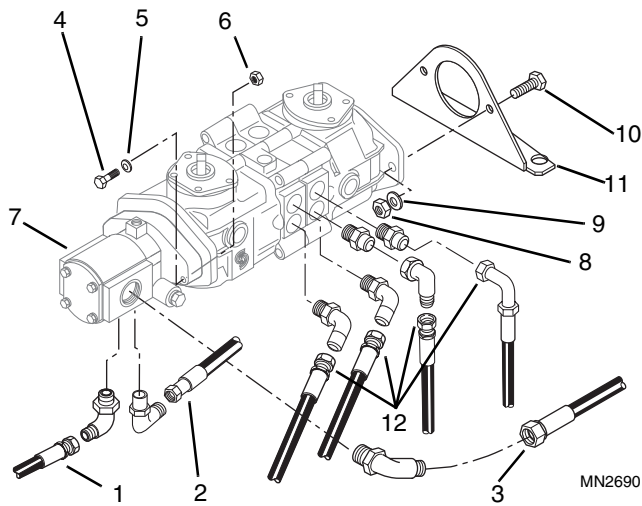

Figure 5-10 Control Pump Disassembly
9. Disconnect three hoses (Fig. 5-10, 1-3) from the implement pump and tag them with identification for proper re-installation. Cap or plug all hydraulic hoses and fittings.
10. Remove the two capscrews (Fig. 5-10, 4), washers (5), and nuts (6) attaching the implement pump (7) to the main travel control pump, and remove the implement pump.
13. Tag and remove all of the hydraulic hoses (Fig. 5-10, 12) that attach to the main travel control pump assembly. Cap or plug all hydraulic hoses and fittings.
15. Note how the hydraulic fittings are oriented (Fig. 5-10) and remove the fittings from the pump assembly.
18. Remove the two locknuts (Fig. 5-10, 8), washers (9), and capscrews (10) that fasten the rear of the main travel control pump assembly to the pump mount (11).
2. Fasten the rear of the control pump assembly to the pump mount (Fig. 5-10, 11) with two capscrews (10), washers (9), and new locknuts (8).
5. Install the implement/charge pump to the front drive pump, and secure with capscrews (Fig. 5-10, 4), washers (5) and nuts (6), and torque to 27-31 lb/ft (37-42 Nm).